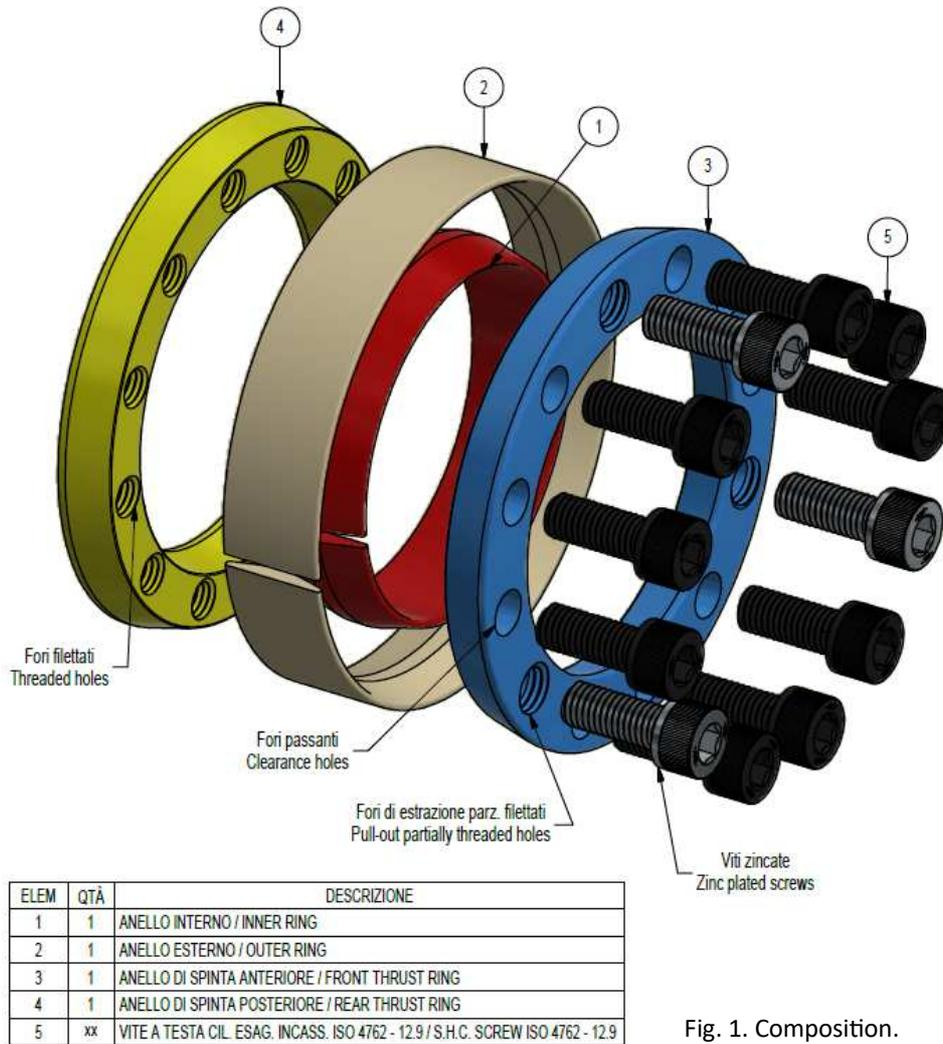

Fig. 1. Composition.
- Locking Assemblies MAV 2005 are supplied ready for installation and are composed of (fig. 1):